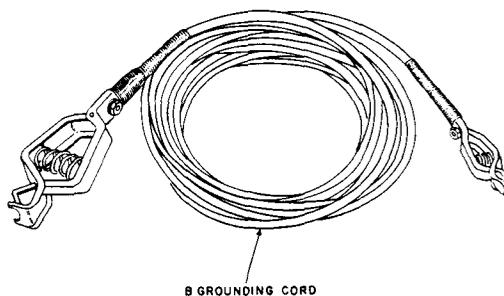
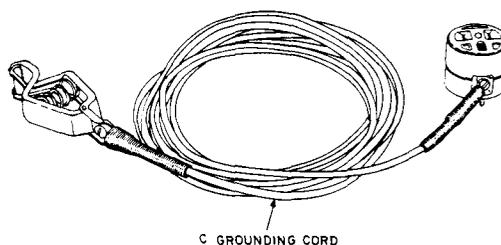

Fig. 4--B Grounding Cord
Fig. 5--C Grounding Cord
- 3.04 When it is not possible to obtain a ground source at the convenience outlet, either the B (Fig. 4) or C (Fig. 5) grounding cords or a length of grounding wire (14-gauge) may be used.
- (a) The B grounding cord (Fig. 4) is a 15-foot, 18-gauge, single conductor cord with clips at both ends.
- (b) The C grounding cord (Fig. 5) is identical to the B cord except that it has a clip on one end and a 3-conductor plug adapter on the other end.